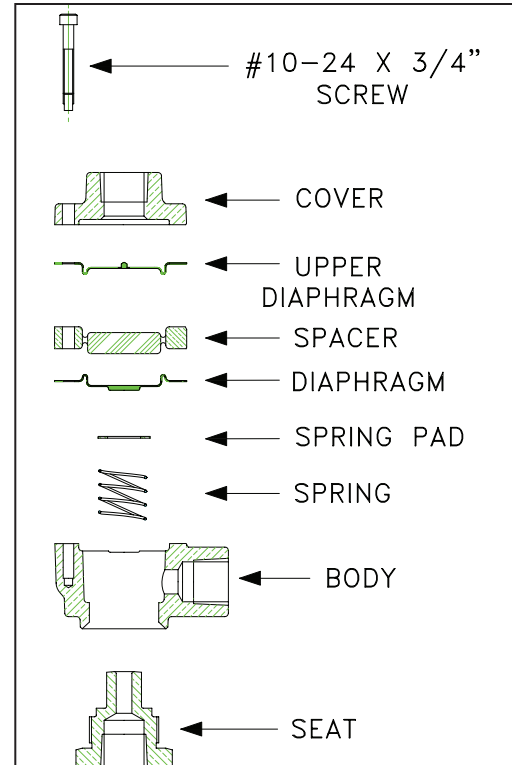

Figure 47
8. If required, remove the valve seat from the body and replace (Figure 47).